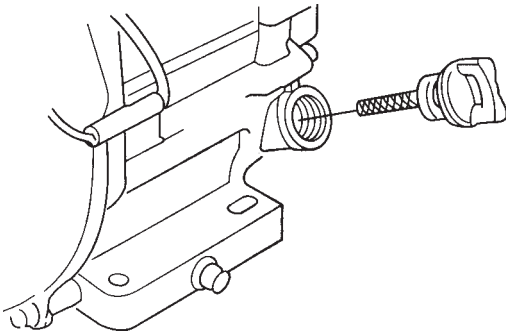

Figure 17. Engine Oil Dipstick (Removal)
2. Remove the filler dipstick from the engine oil filler hole (Figure 17) and wipe clean.